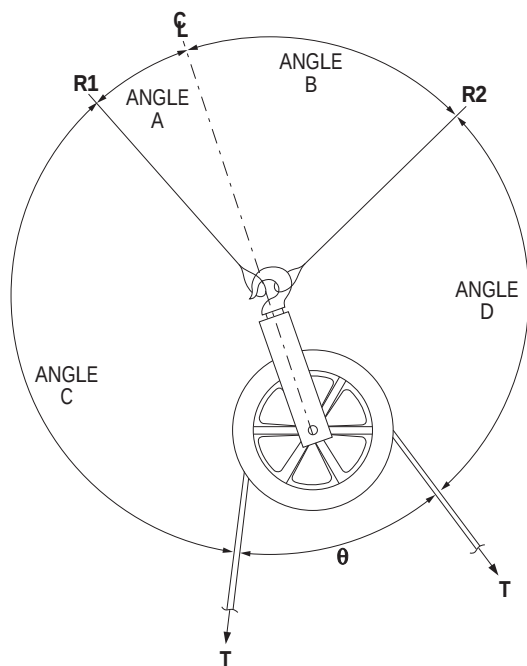

Figure 2 - Single Hook Sheave with two attachment points
CALCULATING THE LOAD ON SINGLE HOOK SHEAVES with two attachment points (Figure 2)
- Determine the angles "A" and "B" (Figure 2) by extending an imaginary line beyond the yoke as illustrated
- Determine the angles "A" and "B" (Figure 2) by measuring angles "C" and "D" and using Formula #2 below.
Measure angles "C" and "D" (see Figure 2)